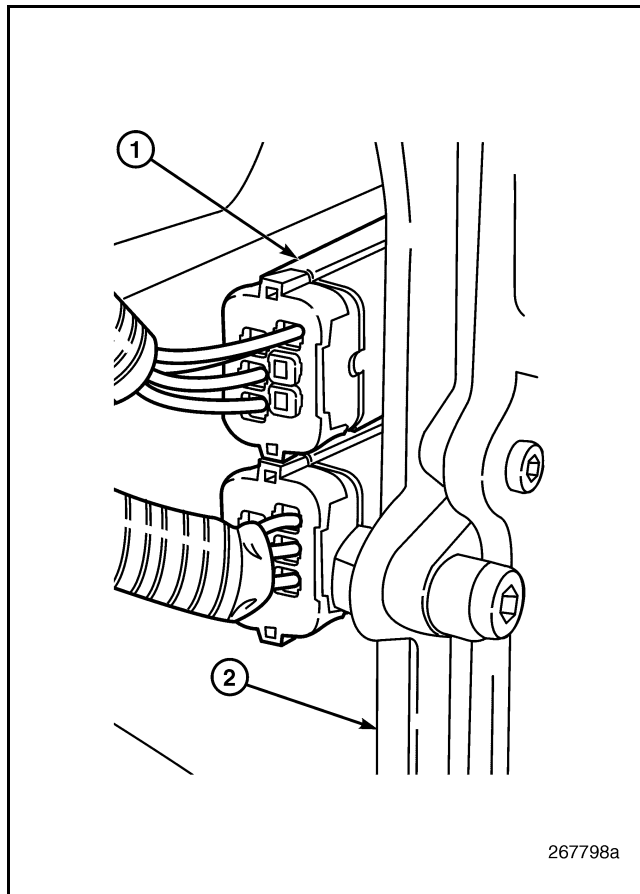

Figure 463 — EGR MASS Flow Module Connections
6. Disconnect the two harness leads from the EGR MASS Flow module mounted to the back side of the cooling plate (Figure 463).
- Connect the wiring harness leads to the EGR MASS Flow module (Figure 463).